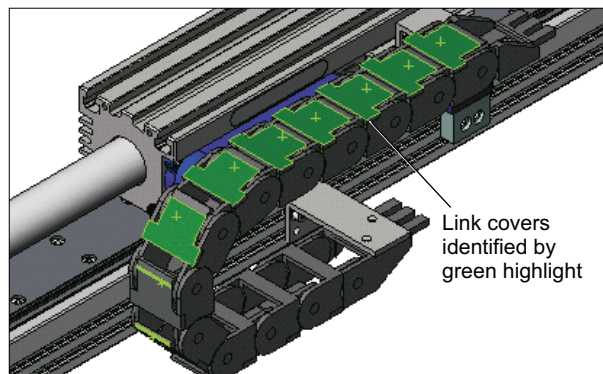

Figure 3.3
- Unclip the covers of all links in the drag chain. These are shown coloured green in Figure 3.3. They can be removed as a single item by progressively pulling up the tongue of the first cover until all are unclipped.